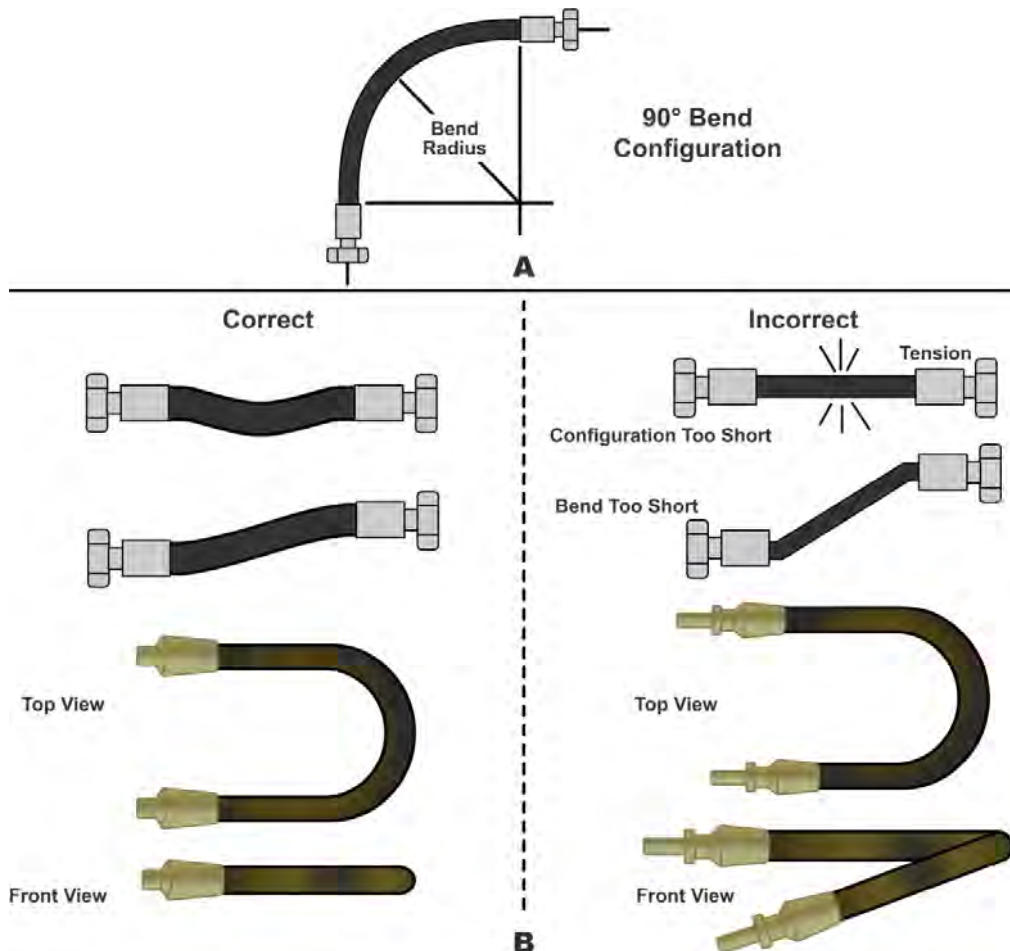

Figure 9-55 — Other approved single hose length configurations.
A configuration that uses a single length of hose bent to about 90° is approved where the hose does not bend below its specified minimum bending radius when the equipment moves to the maximum limits allowed by its mounts (Figure 9-55, view A). The straight single hose configuration and the 180° single hose bend (Figure 9-55, view B) are also approved for use where the hose size is less than 1 inch inside diameter (ID).